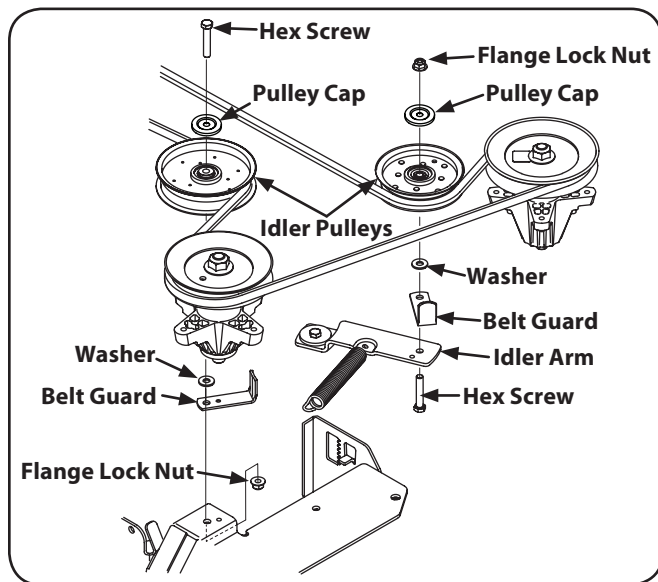

Figure 7-8
- Remove the two idler pulleys by removing the hex screws and flange lock nuts that secure them to the deck and the idler arm. See Figure 7-8. Do not lose any of the hardware when removing the hex screw and flange lock nut.
- Place the belt around the idler pulleys removed in step 3 with the "V" side facing in. Once in place, reinstall all the hardware and tighten the flange lock nut to secure the assembly. See Figure 7-8.